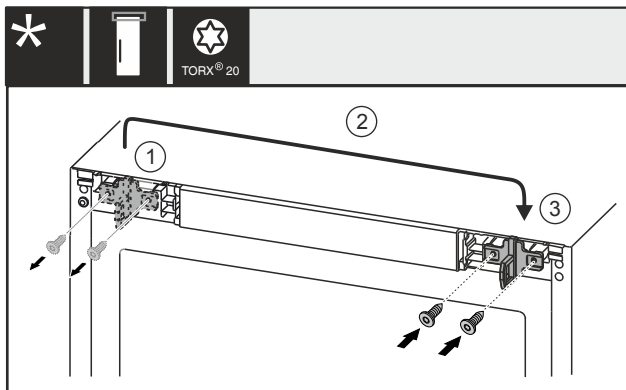

Fig. 26 With electric lock\*
- ▶ Use screwdriver to unscrew the screws Fig. 26 (1).\*
- ▶ Move the locking hook Fig. 26 (2) to the opposite side.\*
- ▶ Use screwdriver to place the screws Fig. 26 (3) and tighten them.\*